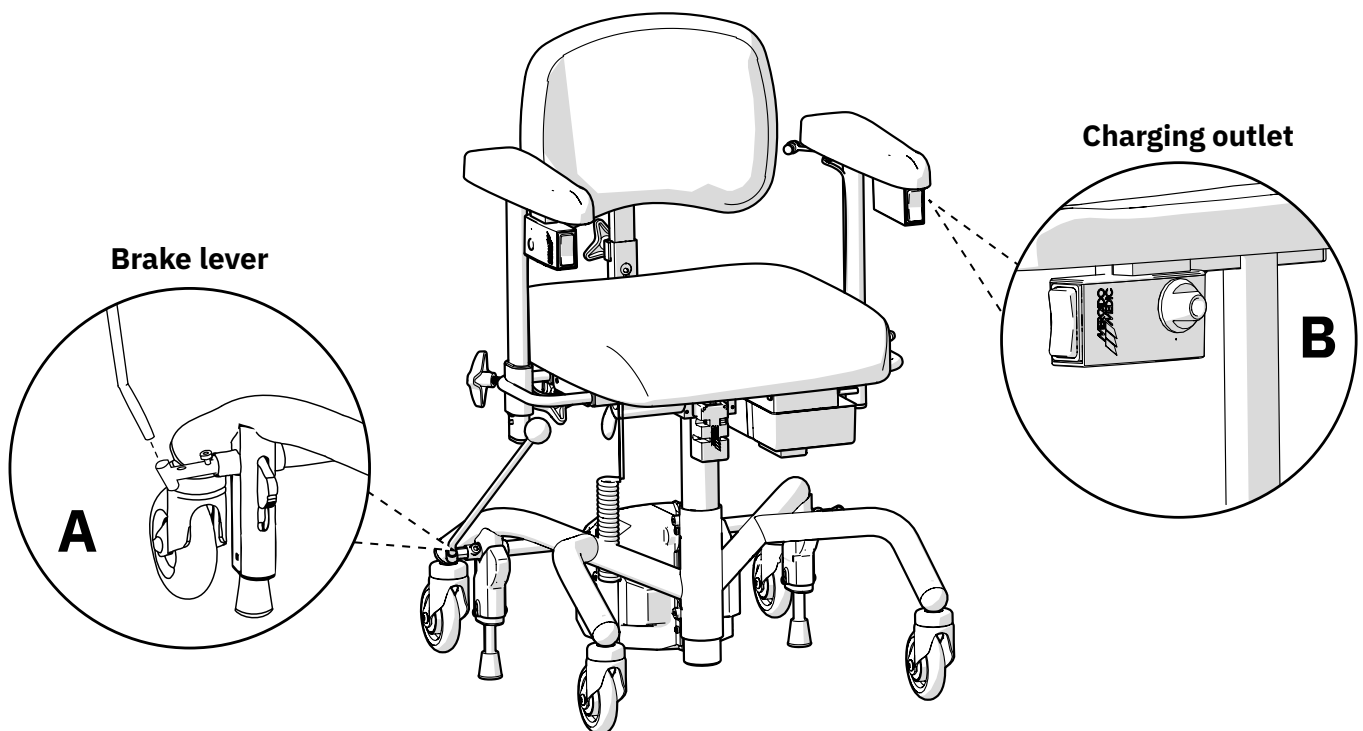

Figure 2.1. Activity chair equipped with the Propeller.
The battery must be charged before using it for the first time. This is done by connecting the battery charger to the device's charging outlet (B) and then to a wall outlet (see Figure 2.1). The charging socket is located on the Propeller's control box, which is mounted under the right or left armrest cushion.
- The activity chair's brake must always be applied when sitting down and getting up. See Figure 2.1, brake lever (A).